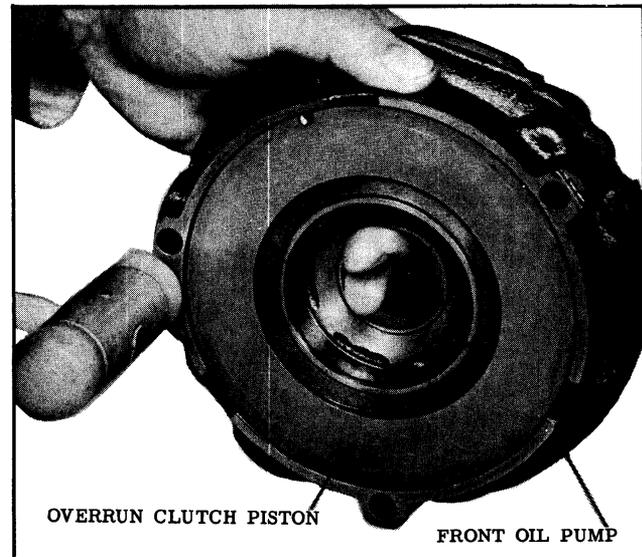

Fig. 3-100 Removing Overrun Clutch Piston
10. Remove overrun clutch piston from the pump by tapping on rear of pump with a composition hammer. (See Fig. 3-100)